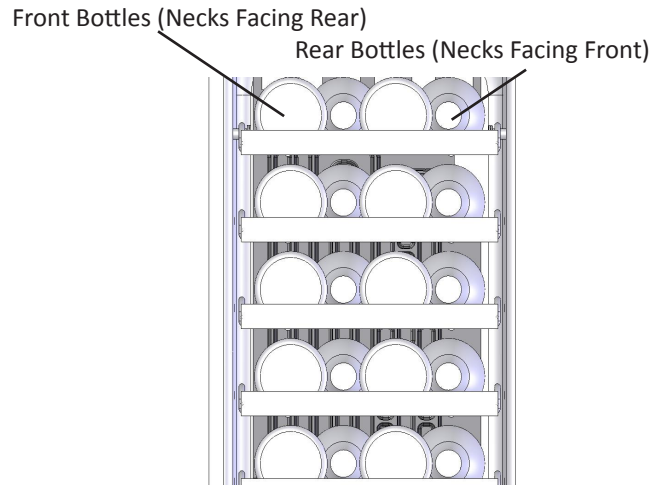

Figure 14
The five (5) pull-out shelves each hold four (4) bottles. See Figure 14 for typical wine bottle spacing. Care should be taken when storing extra tall bottles in the wine cradle at the bottom of the compartment because they may prevent the door from closing.